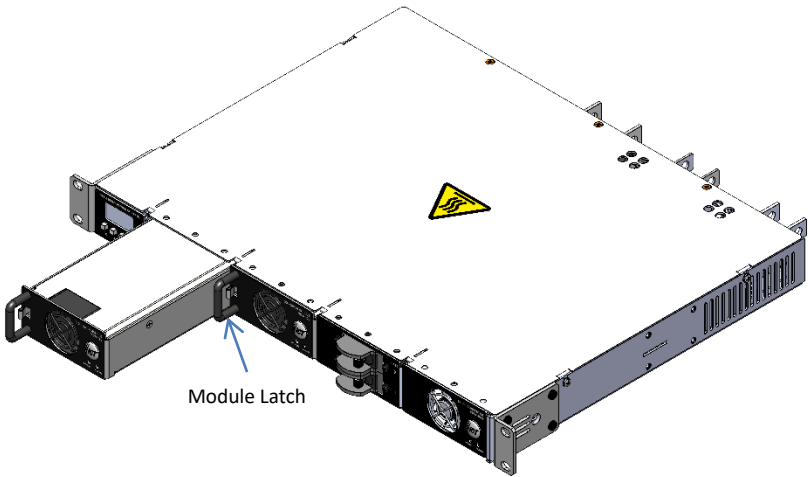

Figure 2: Installing Power Module in a Hybrid Power Shelf
- Carefully align each power module with the internal shelf guides. Firmly push the module into the connectors in the slot. When the latch clicks and the module is flush with the front plate, it is fully installed (see Figure 2). Note that Power Modules can be easily removed by pressing the release latch located under the module handle to the right while firmly pulling the module from the Power Shelf.